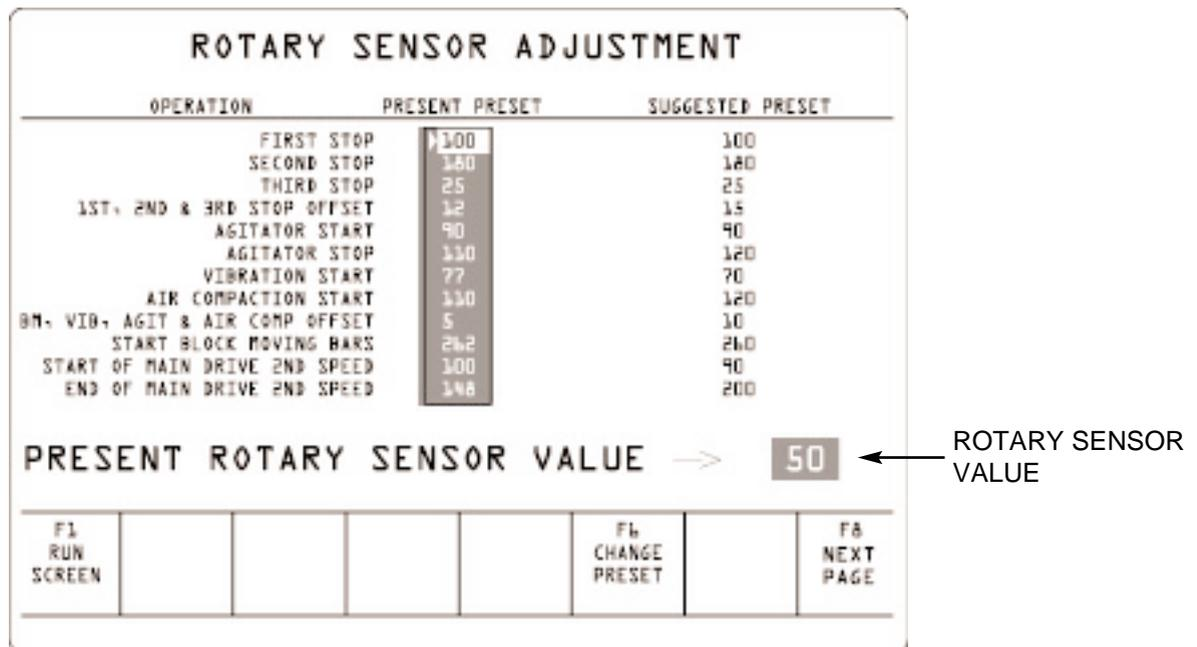
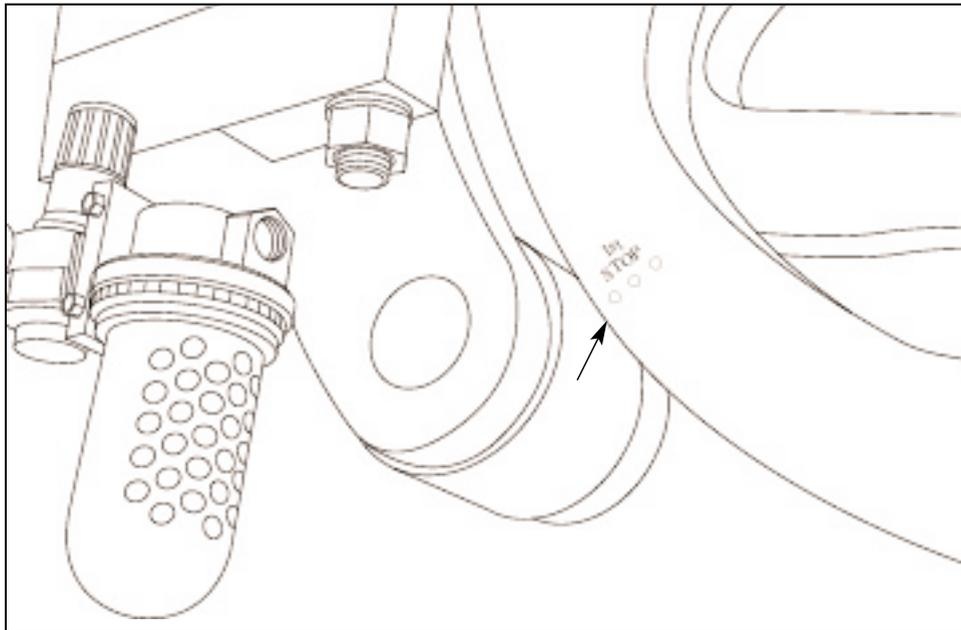

Figure 7.1 ROTARY SENSOR ADJUSTMENT SCREEN.
Figure 7.2 "FIRST STOP" (R.H. side of machine).
- 7.1 As an **initial condition**, cycle the machine to the "first stop" position "First stop" is obtained when the punch marks on the cam are in line with the roller.(see figure 7.2). In this position, the feedbox should be all the way forward and the roller should be centered on the first stop mark of the pallet receiver cam. At this point, the "Rotary sensor value" should be indicating 100° on the rotary sensor adjustment screen (see figure 7.1, for more details see section 10.4). To reach this screen, press "F2" from the main menu.